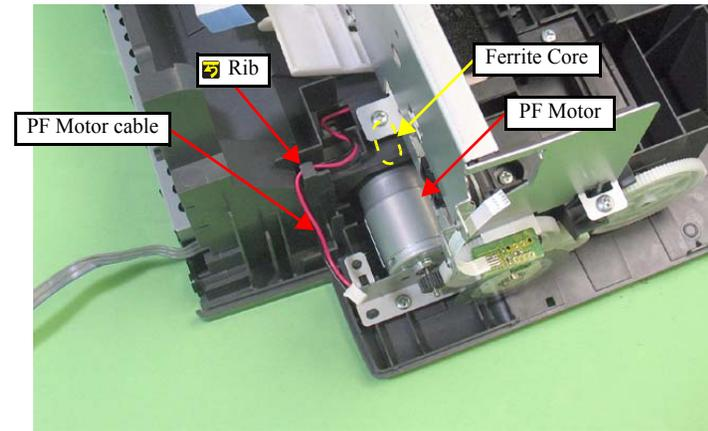

Figure 4-68. Removing the PF Motor (1)
4. Release the Bracket from the dowels of the Lower Housing, and remove the Bracket and the PF Motor while pulling out the PF Motor Cable (see Fig.4-68.) through the hole of the Lower Housing.
- Route the PF Motor Cable following the procedure below. (See Fig.4-68.)